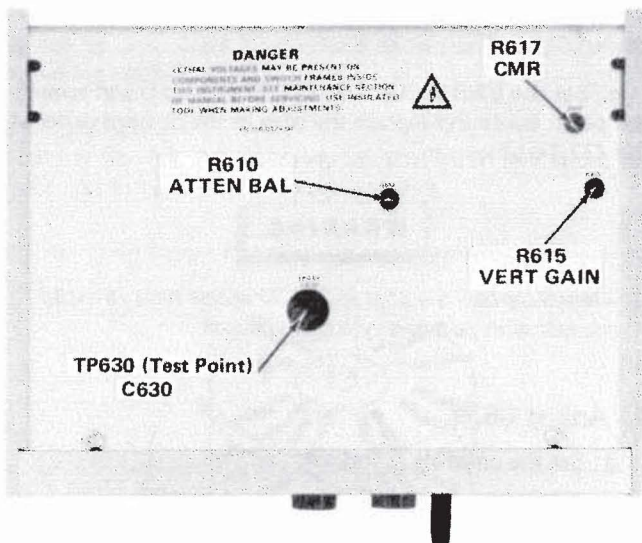

Fig. 5-2. Location of controls, 177 bottom panel.
b. ADJUST—R610, Atten Bal, for no vertical spot movement while switching the VERTICAL CURRENT/DIV from .1 A/DIV through 50 nA/DIV (adjust R610 through the access hole in the bottom cover, shown in Fig. 5-2).